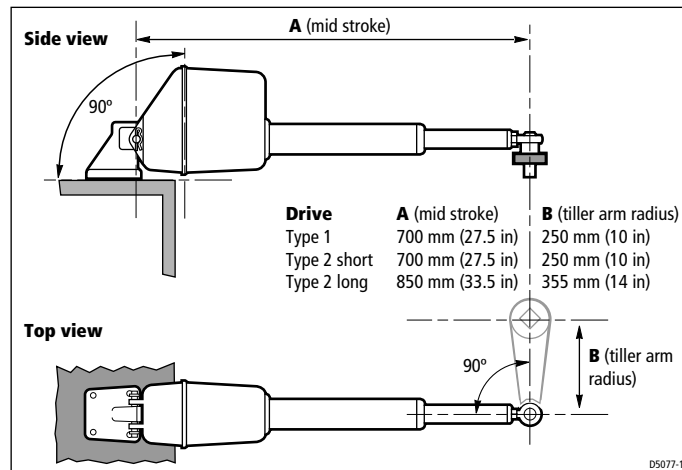

Figure 4: Drive unit alignment
- The main drive assembly must be at right angles to the mounting surface (see *Figure 4*).
- The drive unit must be at right angles to the tiller arm when the rudder is amidships (see *Figure 4*).
Use the supplied tiller pin assembly to attach the rod end to the tiller arm, at the tiller arm radius shown in *Figure 4*.
**Note:** If necessary, you will need to drill a 13 mm (0.52 in) hole in the tiller arm at the radius shown in *Figure 4*.